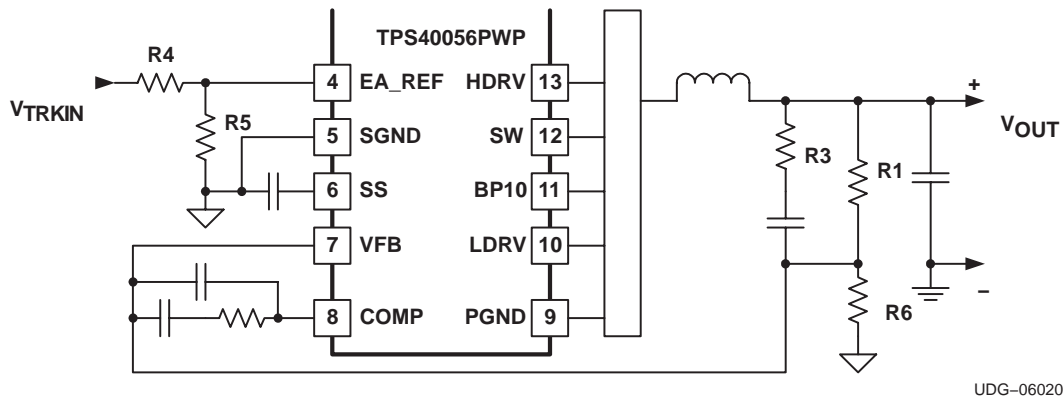

Figure 1. Tracking Configuration,  $V_{OUT}$  Tracks  $V_{TRKIN}$
Setting the output, VOUT to track another voltage, VTRKIN, is simply a matter of selecting the proper voltage divider(s) R4,R5,R1 and R6 as shown in Figure 1. The voltage on the EA\_REF input should be in the range of 0.2 V to 2.5 V. If the output voltage is less than 2.5 V, resistor R6 can be omitted. For example in the DDR case, if the voltage VTRKIN ramps up to 2.5 V and it is desired to have VOUT to track it and come up to 1.25 V, set R4=R5 and omit R6. In general, the output voltage, VOUT, in terms of VTRKIN and the two voltage dividers is shown in Equation (2).